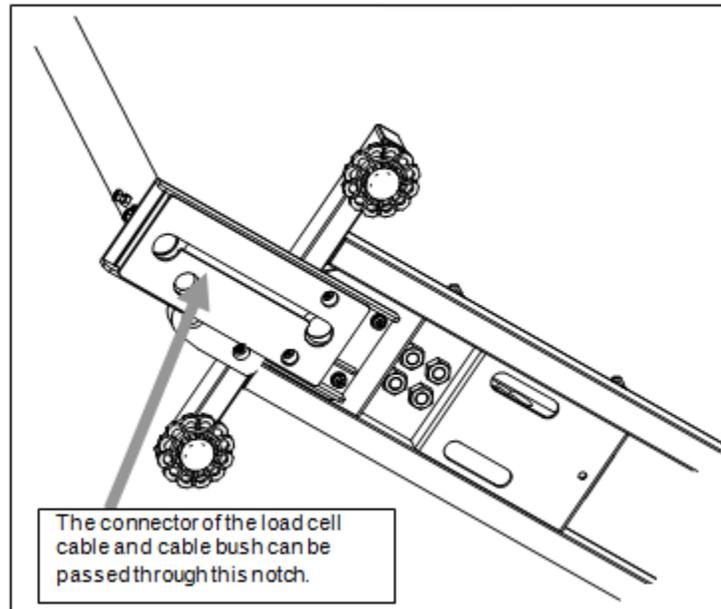

Figure 3-1 View of underside
- ⑤ As shown in **Figure 3-1 View of underside**, the underside of the support holder has a notch. Pass the connector of the load cell cable and cable bush through the notch, and then remove the cable of the load cell.